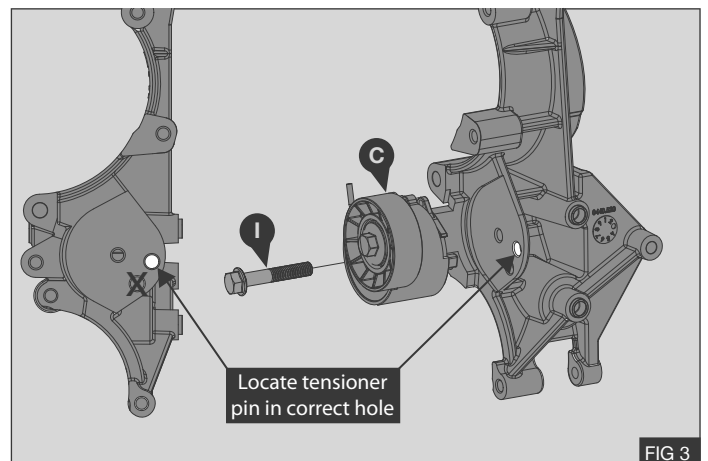

FIG 3
**Caution:** Make sure the tensioner is located in the correct position as shown in - Fig 3
1. Fit the original automatic tensioner **C** using original bolt **I** - Fig 3
2. Torque bolt **I** to 45Nm / 33 Lb ft - Fig 3